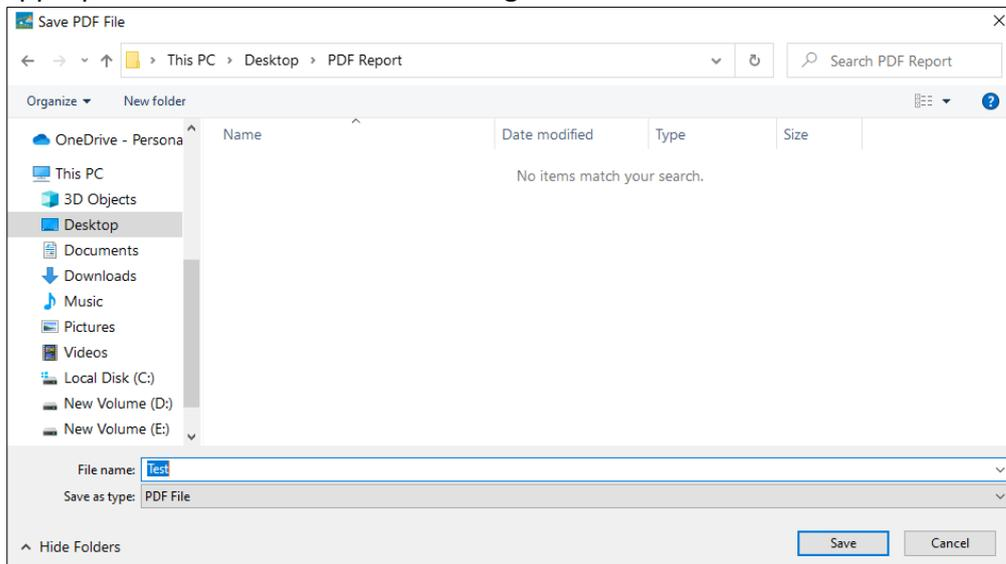

Figure 19 Selecting file location for saving PDF report
- Finally select the “**Generate Report**” button to save the generated PDF report at appropriate file location as shown in figure 19.